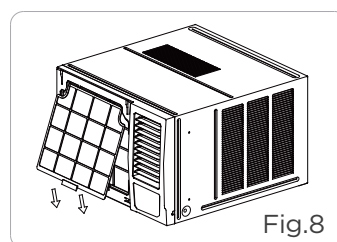

Fig.8
1. Insert the air filter into the frame's slot from upside to underside. (See Fig.8).